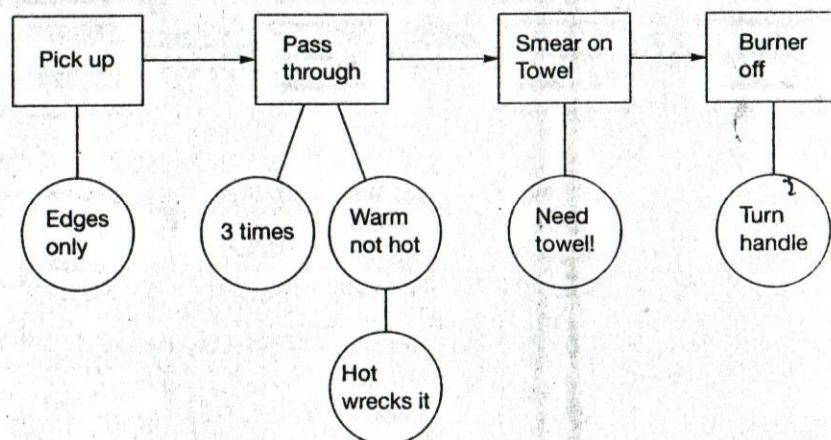

FIGURE 11.1
**Analyze the Sequence** Organize the set of instructions in chronological order. Decide which step comes first, which second, and so on, then present them in that order. To decide where in the sequence each step belongs, you must analyze the sequence. That is, you must determine the end goal, name and explain the tasks to be performed, and analyze any special conditions that the user should know. (For an example, refer to Figure 11.1.)
**Example of Process Analysis** The following set of instructions is the result of a careful analysis of the sequence of steps. The writer first developed a flow chart of the process (Figure 11.1). This flow chart contains steps (in the boxes) and conditions (in the circles). The writer then converted the flow chart into text. The writer clearly names the end goal (to heat-fix the smear), clearly states the subtasks (in four steps), and accounts for special conditions (explains why not to heat too long). Note that the section is written for a beginner: the writer outlines the steps and substeps and uses a visual aid. If this section were rewritten for an intermediate, the writer would need only to say, "Heat-fix the smear."